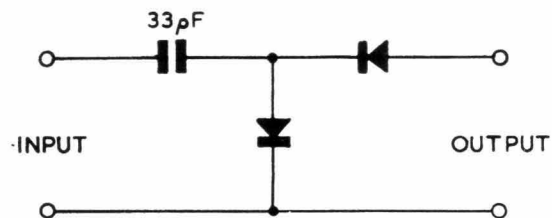

FIG. 2: Peak-to-Peak Detector.
- (1) Inject 5.5 Mc/s. at approximately 100 mV between the junction L28 and MR1 diode and earth (disconnecting the diode).
- (2) Connect the input of the peak-to-peak detector illustrated (Fig. 2) to CRT cathode, pin 7. Connect the output of the peak-to-peak detector to a 20,000 ohm/volt meter on the 50 micro-amp. range.
- (3) Adjust primary core of IFT4 (nearest chassis) to give zero reading on meter. If the IFT is replaced, it is necessary to adjust both cores to give a zero reading at 5.5 Mc/s.
- (4) Withdraw both cores from former. Screw in primary core (nearest chassis) to give a minimum reading.
- (5) Screw in secondary core until meter reading rises slightly and then adjust primary core until a new minimum is obtained.
- (6) Repeat adjustment of primary and secondary cores until meter reads zero.